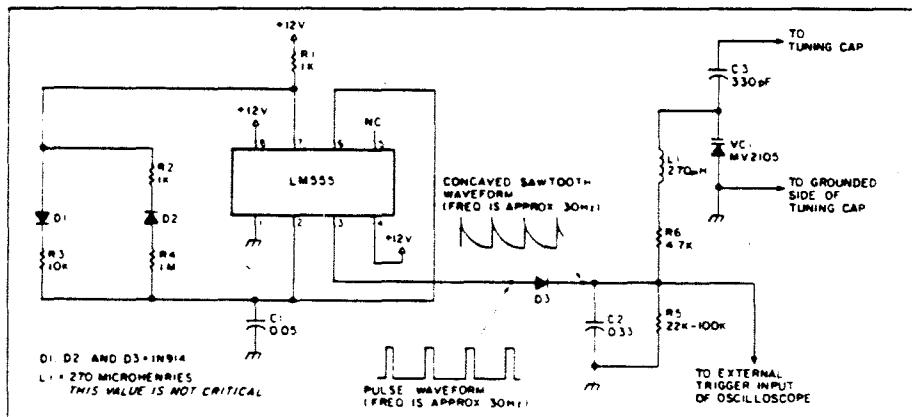

Figure 1. Schematic for the \$10 or less home-brew spectrum analyzer.
Now see the schematic in Figure 1. The receiver provides the signal (DC voltage) for the oscilloscope to display. All you have to build is a very simple device that will (1) cause the receiver to "scan" a portion of the HF spectrum and (2) provide a "sync" signal to the scope so it will also scan the CRT at the same rate.